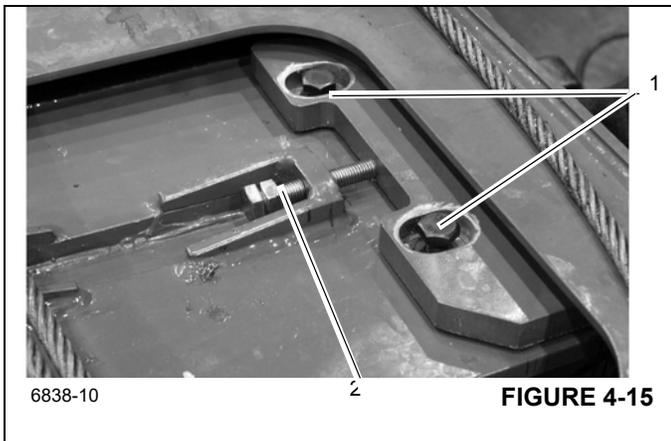

FIGURE 4-15
2. Remove the bolt, washer, and offset washer (1), (Figure 4-15) securing each top rear adjustable wear pad and remove the wear pads, keeper plates and bolts (2), (Figure 4-15) from the top of the inner mid section. **Note the location of wear pads and shims for installation.**
3. On the top front of the base section (Figure 4-15), remove the two bolts (1), (Figure 4-15) securing the kick back plate and remove the plates.